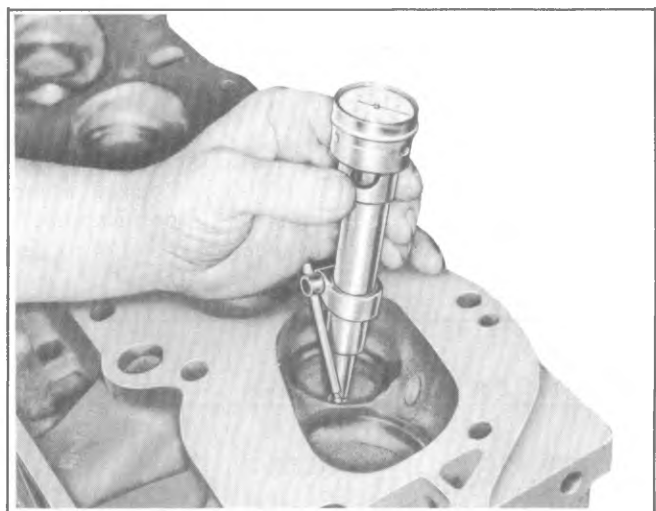

Fig. 6A2-35--Measuring Valve Seat Concentricity - Typical
6. Measure valve seat concentricity (fig. 6A2-35).